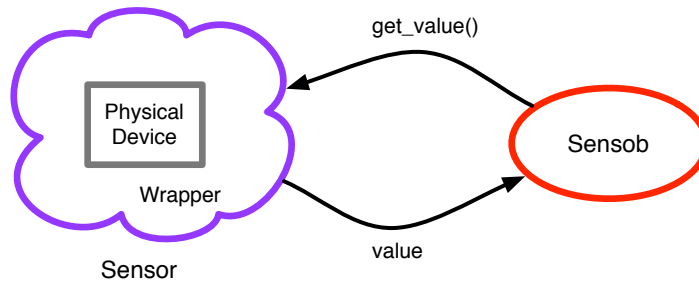

Figure 4: The key components of a sensor: a physical device and a Python code wrapper, which serves as the interface to the sensob.
there are many). This code is also object-oriented, with each physical sensor having a corresponding Python object, known as its **sensor wrapper** (SW). Figure 4 shows this relationship between a sensob and the actual physical sensor.